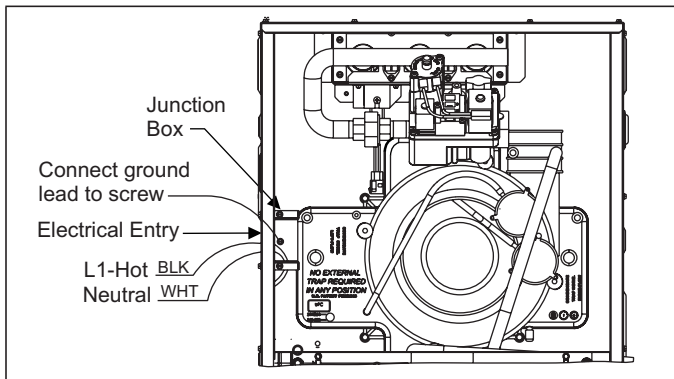

FIGURE 17: Electrical Wiring
2. Remove the wiring box cover screws. Route all power wiring through a conduit connector or other proper bushing that is field installed into the unit opening and the junction box. In the junction box there is a black wire, a white wire and a green ground screw. Connect the power supply as shown on the unit's wiring label on the inside of the blower compartment door or the wiring schematic in this section. Connect the black wire to L1 (hot) from the power supply. Connect the white wire to neutral. Connect the ground wire (installer-supplied) to the green (equipment ground) screw. An alternate wiring method is to use a field-provided 2" (5.1 cm) x 4" (10.2 cm) box and cover on the outside of the furnace. Route the furnace leads into the box using a protective bushing where the wires pass through the furnace panel. After making the wiring connections replace the wiring box cover and screws. Refer to Figure 17.
3. The furnace's control system requires correct polarity of the power supply and a proper ground connection. Refer to Figure 17.
Install the field-supplied thermostat by following the instructions that come with the thermostat. With the thermostat set in the OFF position and the main electrical source disconnected, connect the thermostat wiring from the wiring connections on the thermostat to the terminal board on the ignition module, as shown in Figure 17. Electronic thermostats may require the common wire to be connected. Apply strain relief to thermostat wires passing through cabinet. If air conditioning equipment is installed, use thermostat wiring to connect the Y and C terminals on the furnace control board to the proper wires on the condensing unit (unit outside).